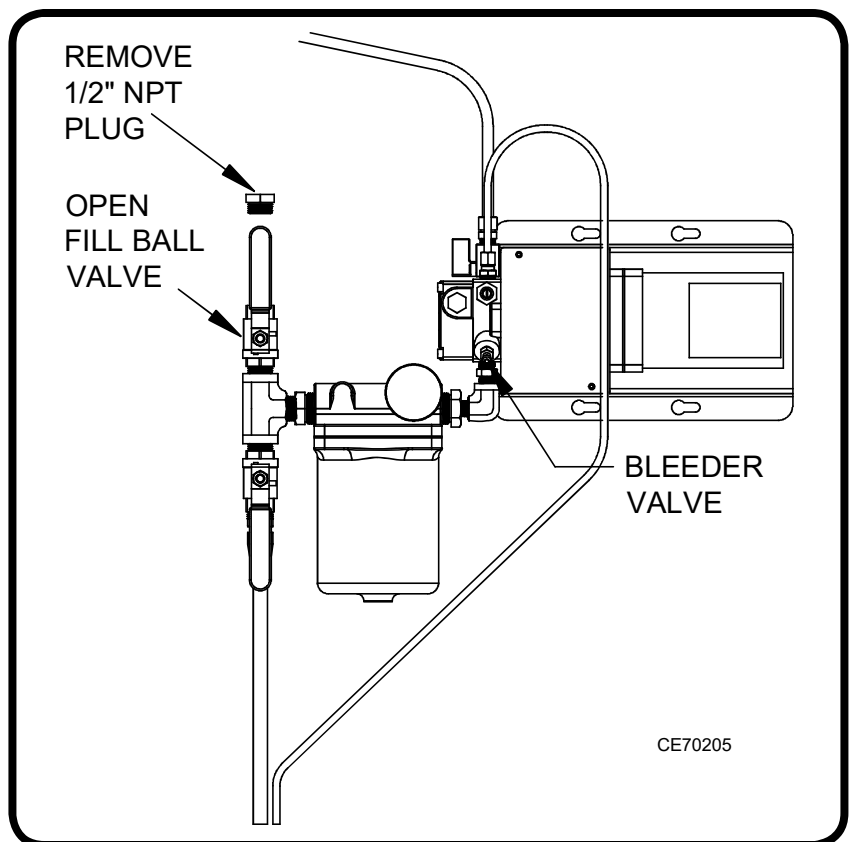

Figure 24: Priming the Metering Pump System
- (1) Refer to Figure 24.
- (2) Remove the 1/2" NPT plug and open the ball valve on the inlet of the filter.
- (3) Pour oil into the inlet of the filter until the suction oil line, filter, and pump head are full.
- (1) After the burner starts, press and hold the reset button for 15 seconds until the small yellow light on the primary control ("Pump Prime") turns on (the burner will shut off).
- (2) Release the reset button. The yellow light will turn off and the burner will start again.
- (3) Within 15 seconds click (push and release) the reset button. This will transition the primary control to "Pump Prime" mode which will bypass the flame sensor and keep the pump on for 4 minutes.
- (4) Open the pump bleeder valve and purge all air bubbles from the pump (refer to figure 24).
- (5) After 4 minutes the yellow light on the primary control will turn off and the control will automatically return to standby mode.
- (6) Repeat steps 1 - 5 until the pump is fully primed and oil is delivered to the burner.